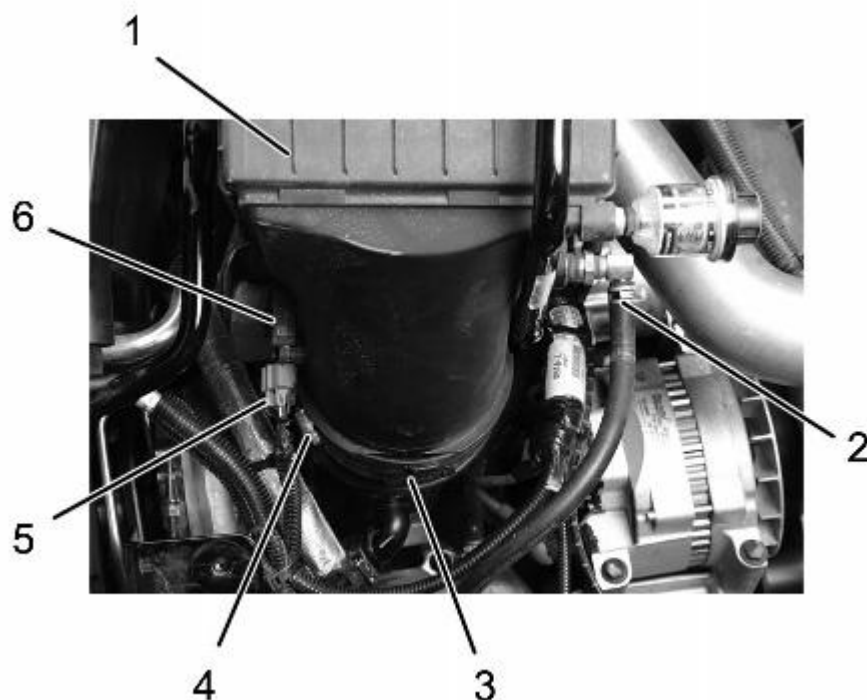

**Figure 21. MAF Sensor and Air Compressor Inlet Hose.**
**25. Install air box outlet into LP turbocharger inlet elbow duct (Figure 21 Item 3) and torque clamp (Figure 21 Item 4).**
**26. Connect air compressor inlet hose (Figure 21, Item 2) to air box (Figure 21, Item 1).**
**27. Connect MAF sensor connector (Figure 21, Item 5) to MAF sensor (Figure 21, Item 6).**